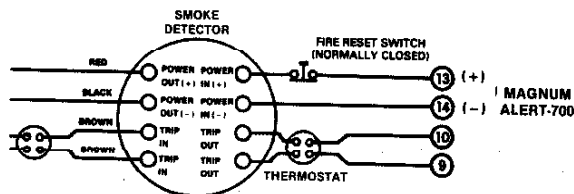

FIGURE 4: FIRE CIRCUIT WITH RESET SWITCH
- (1) Connect the positive (+) lead of the first detector to terminal 9 (+), and the negative lead to terminal 10 (-).
- (2) If fire detectors are powered by the auxiliary output of the control center, connect the voltage supply (+) of the first detector to terminal 13 (+) and the voltage supply (-) to terminal 14 (-) (Figure 4).
- (3) NOTE: Powered fire detectors which are not self-resetting require a switch to reset a latched fire alarm. If powered detectors are not self-resetting, connect a momentary normally closed switch between the voltage supply (+) (which may be an external source or Auxiliary Output terminal 13) and the fire detector. Place the switch where it is easily accessible to the user and point out its location and function. (Figure 4 shows a reset switch on a fire detector circuit which is powered by the control center.)